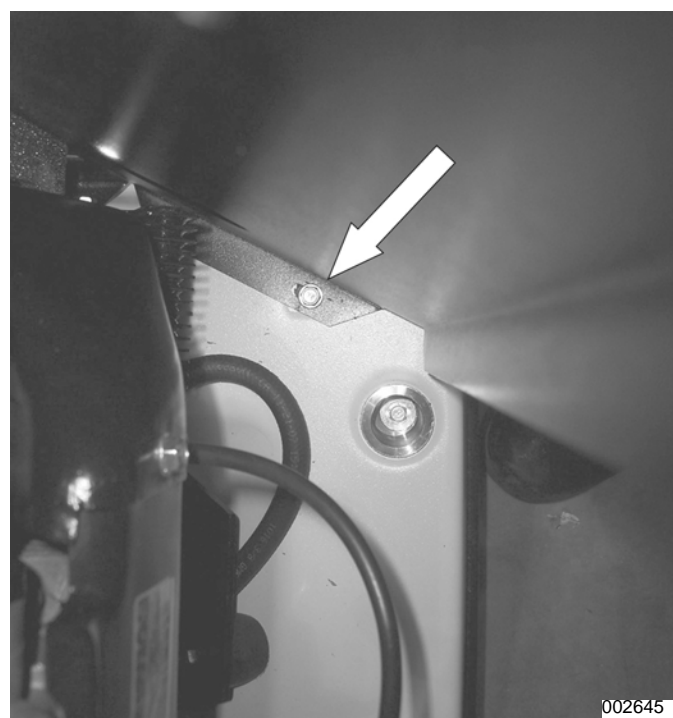

Figure 5-17.
12. **Remove Engine Divider Panel:** See Figure 5-16. Use a 10 mm socket to remove the rear 10 mm bolt from the base of the enclosure. See Figure 5-17. Remove the front 10 mm bolt from the base of the enclosure.